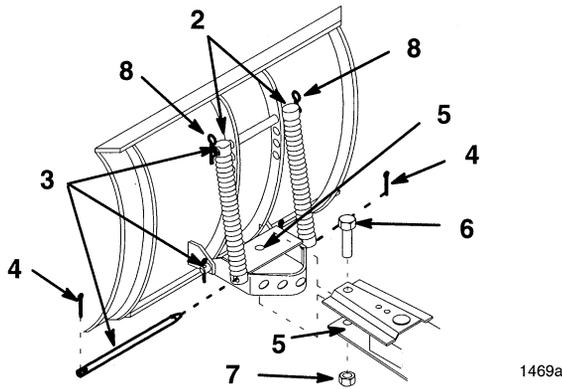

Figure 1
1. Attach channel assemble and blade trip springs to blade with rods and hairpin cotters and cotter pins (Fig. 1).
2. Apply liberal amount of general purpose grease to pivot area of frame and channel (Fig. 1) and attach with 3/4-16 x 3/4 inch bolt and nut.